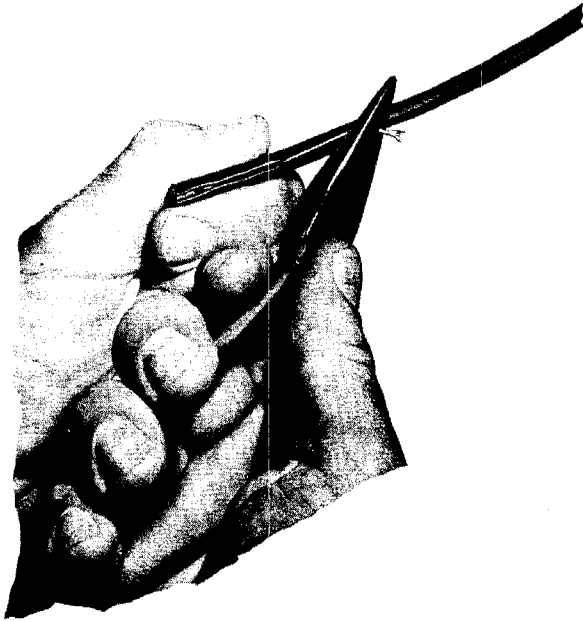

Fig. 1 — Slitting Outer Jacket, Using Slitting Cord
- (1) Using diagonal pliers, make approximately a 1/2-inch slit in the end of the outer jacket along the ridge of the jacket, to expose the outer jacket slitting cord.
(2) Grasp the slitting cord firmly between the flat jaw portions of the long nose pliers. Pull the cord with the long nose pliers and slit the outer jacket back approximately 5 inches from the end of wire, as shown in Fig. 1. Remove the slit portion of the jacket, using the diagonal pliers.